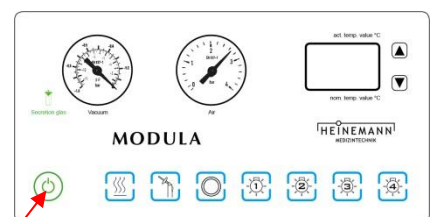

Fig. 4
Pressing the main power switch (Fig. 3) sets the treatment unit into standby mode. The Fig. 3 shows the OFF position (O) of the switch. For activating, press the rocker switch to the ON – position (I). To activate the unit, press the standby-key (Fig. 4) for approx. 3 seconds. Now the treatment unit is ready for use. This state is indicated by green illumination of the standby key and blue illumination of other function keys. Only those keys of functions which have been ordered with the unit are illuminated blue. To set the unit back in standby mode, touch the standby key for 3 seconds. Function key illumination is switched off and only the standby keys remains illuminated in blue.